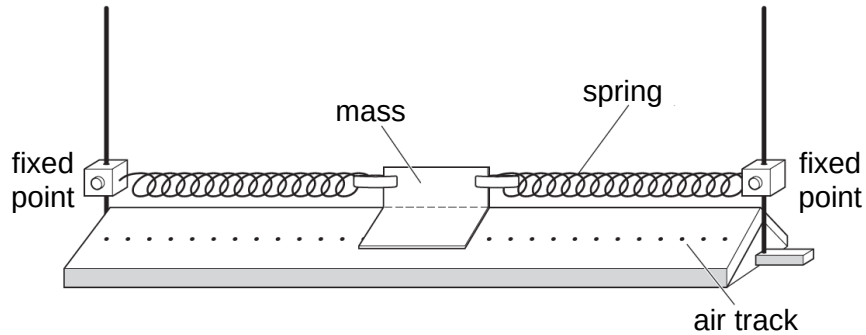

Fig. 3.1
- 3 Fig. 3.1 shows a 0.45 kg mass held on a horizontal air track by two identical springs that are initially unstretched. The mass is pulled 5.0 cm to the left and released. The mass oscillates horizontally on a cushion of air.